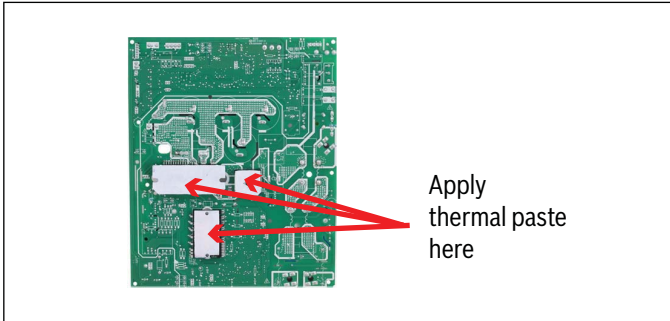

Figure 2
6. Put thermal paste on 3 locations (see Figure 2). The entire contact surface must be covered.
5. If replacing the lower board, remove the 6 screws to remove board (refer to Figure 2 and information below).
**i** There are different type screws and they shouldn't be mixed. Different screws have different locations. Refer to color coding in Figure 2 for appropriate screw and location.